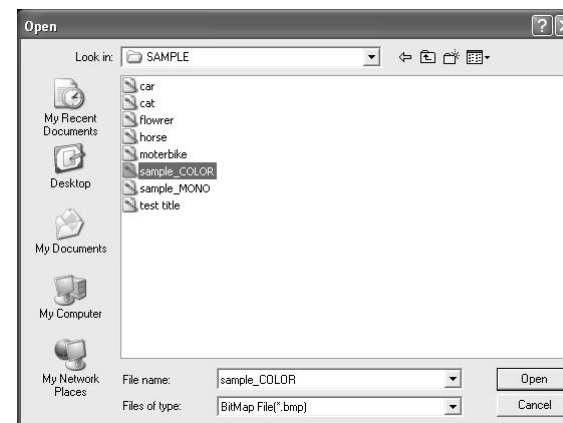

Fig.10 File selection dialog box
- 3** When the "Open File" button is clicked, the file selection dialog box shown in Fig.10 appears. Select the image file (BMP, JPG or JPEG) to be transferred, and click "OK".